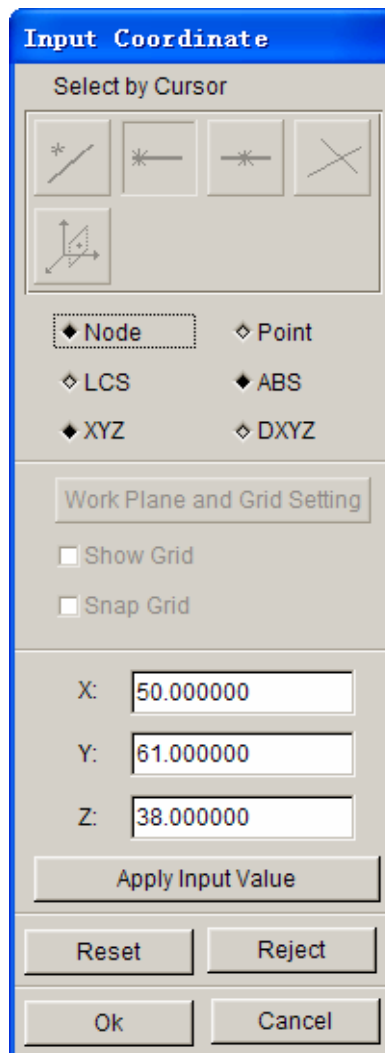

Figure 6.1.30 Selection of Tipping Center using INPUT COORDINATE dialog box
- USER DEFINE - The user selects a node, point or center coordinate as the tipping center using the INPUT COORDINATE dialog box as illustrated in Figure 6.1.30.